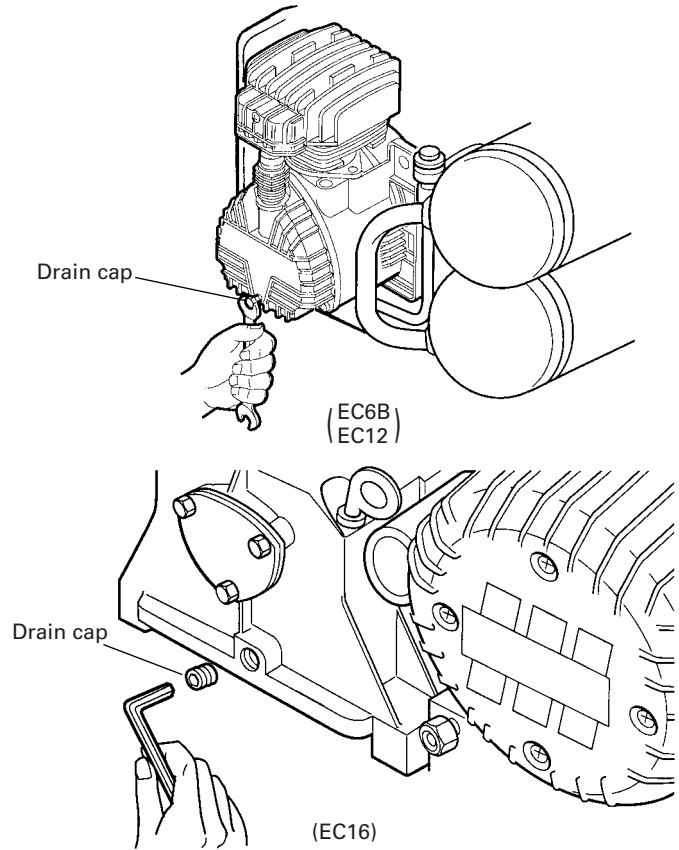

Fig. 8
(1) Within the first 50 hours of operation, completely replace the oil of the pumping element. Unfasten the oil drain cap on the casing cover, drain all the oil, and screw the cap back on (Fig. 8).